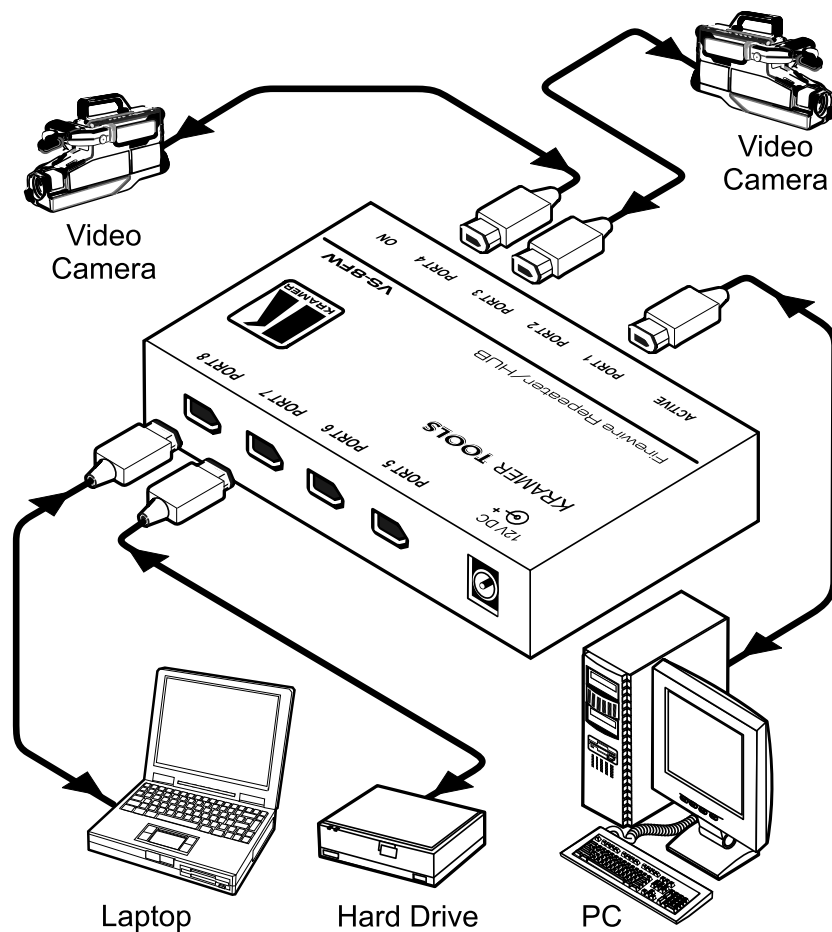

Figure 4: Connecting the VS-8FW FireWire Repeater / HUB
To use the **VS-8FW¹** *FireWire Repeater / HUB*, as the example in Figure 4 illustrates, do the following²:
2. Connect the 12V DC power adapter to the power socket and connect the adapter to the mains electricity (not shown in Figure 4). The ON red LED lights.